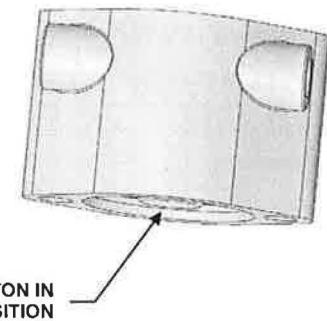

Figure 4-11. SVA in 'Set' Position
- Ensure the piston of the SVA is in the 'Set' position. See Figure 4-11.